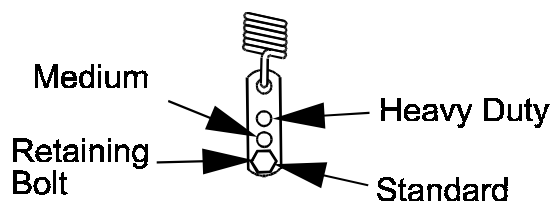

FIG. 12
- b) For a heavier drive setting, relocate the spring anchor link as shown in Figure 12. The spring anchor links are located under the engine deck on the left and right hand sides.